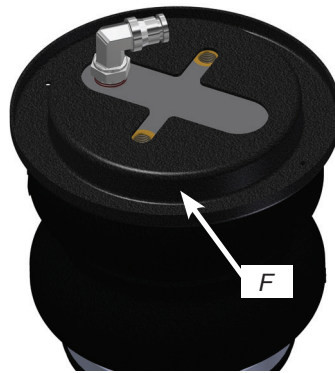
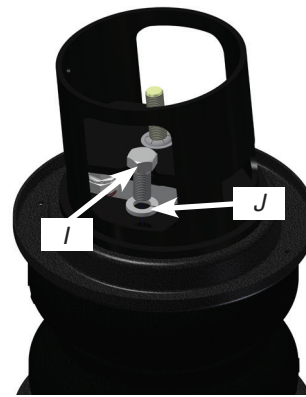

fig. 10
fig. 11
3. Place the roll plate (F) over the air spring (fig. 10). Attach the upper mount to the air spring (fig. 11) using two short bolts (I) and two lock washers (J). Torque to 27 Nm (20 ft-lbs.)